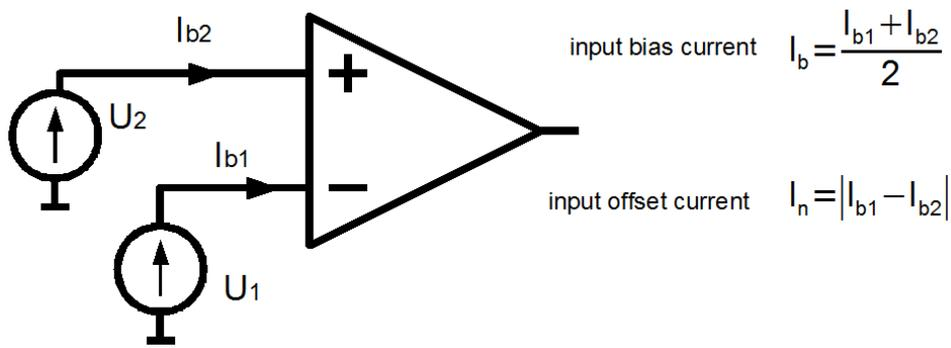

Figure 6.25 Input bias current
- input bias current and input offset current – the current that flows in (or sometimes out of) the inputs, as shown on Figure 6.25